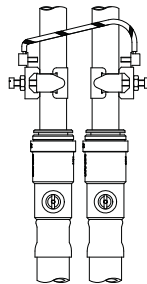

Fig. 11
- 4.15 **Adjacent pipes:** Adjacent suction and delivery pipes should be fitted with earthing clamps and connected with earthing wire size 4 mm2 (Fig. 11).